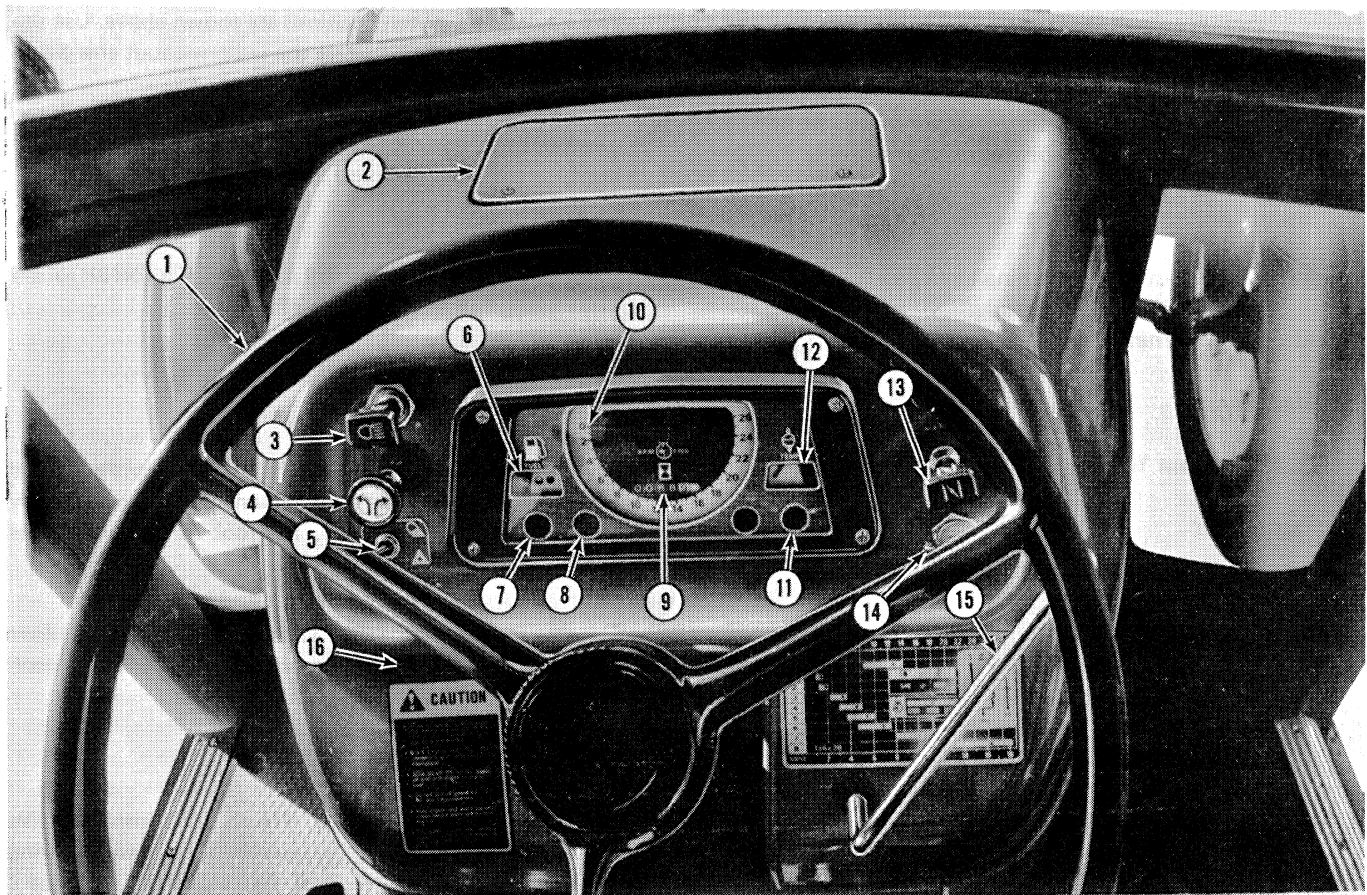

Figure 1
The following engine controls and instruments are shown in Figure 1. See Operator's Manual SE 3501 for operating instructions except as noted below.
A deep dish steering wheel, Figure 1, is installed with optional power steering. Tractors without power steering are equipped with a standard steering wheel that has a flatter design.
The console mounted light switch (3), Figure 1, controls the head lights and the red tail light. The switch operates as follows:
The toggle-type switch (5), Figure 1, activates the flasher/turn signal lights and the optional rear work light(s) as follows:
With the toggle-type switch (5) in the down position, the rotating switch (4), Figure 1, will activate the flasher/turn signal lights (2), Figure 12, as follows: